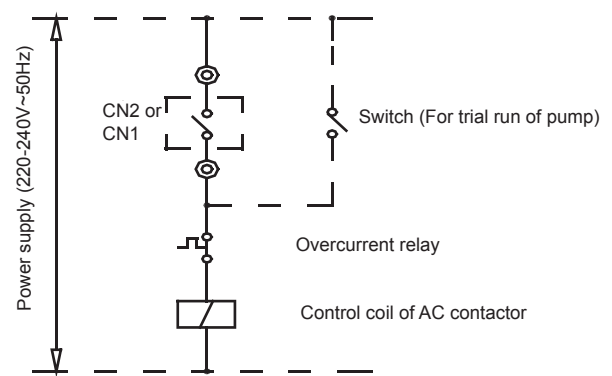

Fig.5-3
Step 10. Connection of control wires of pump: the control wires of AC contactor of pump must pass the connection terminals CN1 or CN2 of the main unit, as shown in Fig. 5-3.